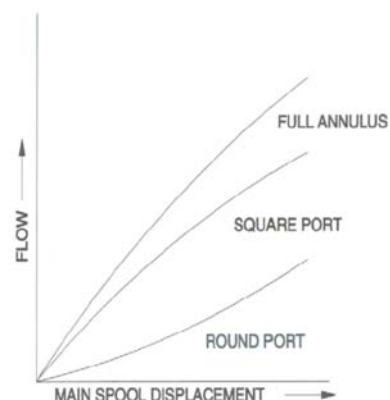

FIGURE 11.14
- Refer Fig 11.14 (Effect of port shape on flow).